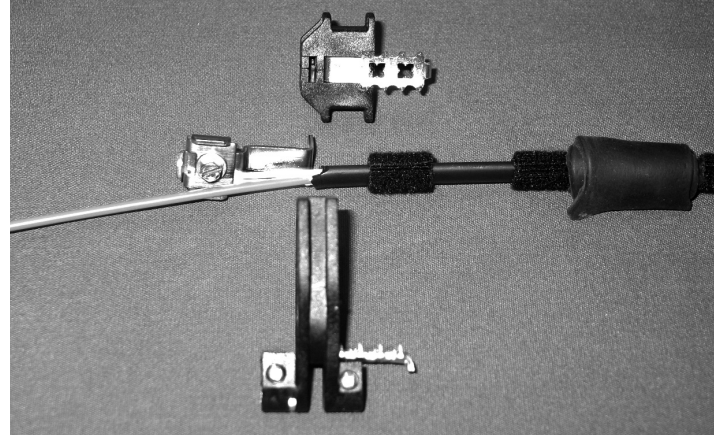

Figure 7
9. Position the cable retention device so that the teeth of the retention clips are on top of the black felt tape applied in Step 6 (Figs. 7 and 8).